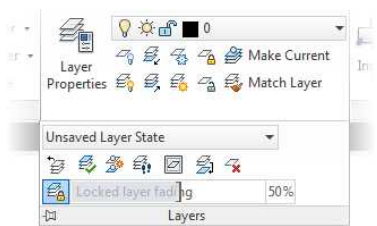

FIGURE 6.4: The expanded Layers panel
2. Expand the panel and you will see that it contains several buttons, two drop-down lists, and a slider bar for controlling layers, as shown in Figure 6.4.